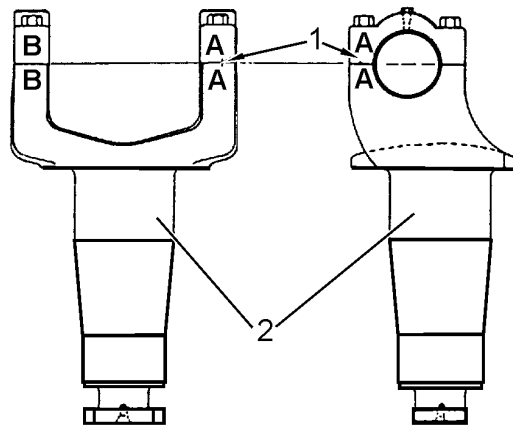

Fig. 10C.2. Yoke and Cap Stamp Marks
2. Start the engine and hydraulically retract both the cylinder rods (6). Shut off the engine. Using wire, secure the cylinder rod ends (6) of both cylinders to the cylinders (7).
3. Disconnect hoses (5) at the cylinder manifold (9).
NOTE: The bearing caps are matched with the ears of the yoke. If not marked, stamp letters A and B on the caps (1) and corresponding yoke (2) ears in the areas shown in Fig. 10C.2. Identification marks to be in the same area, either side or end as shown below.